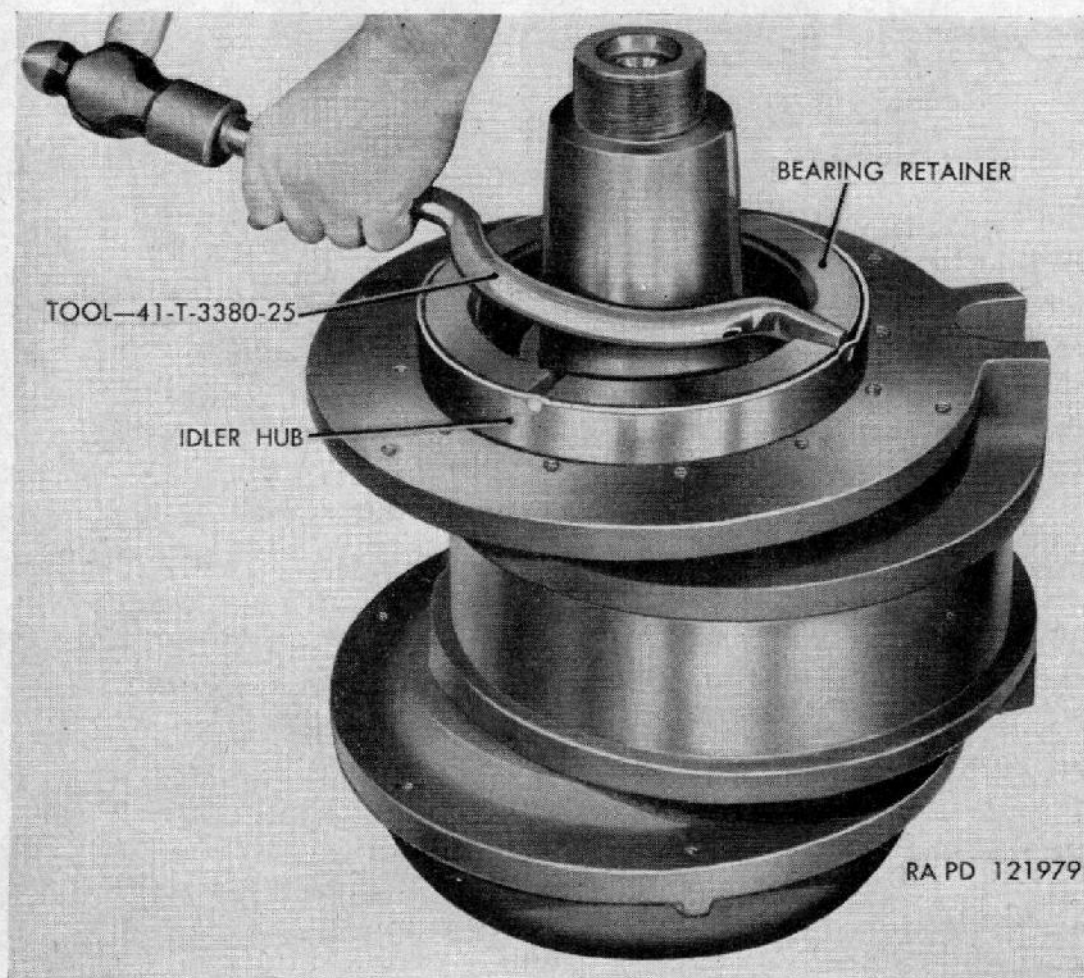
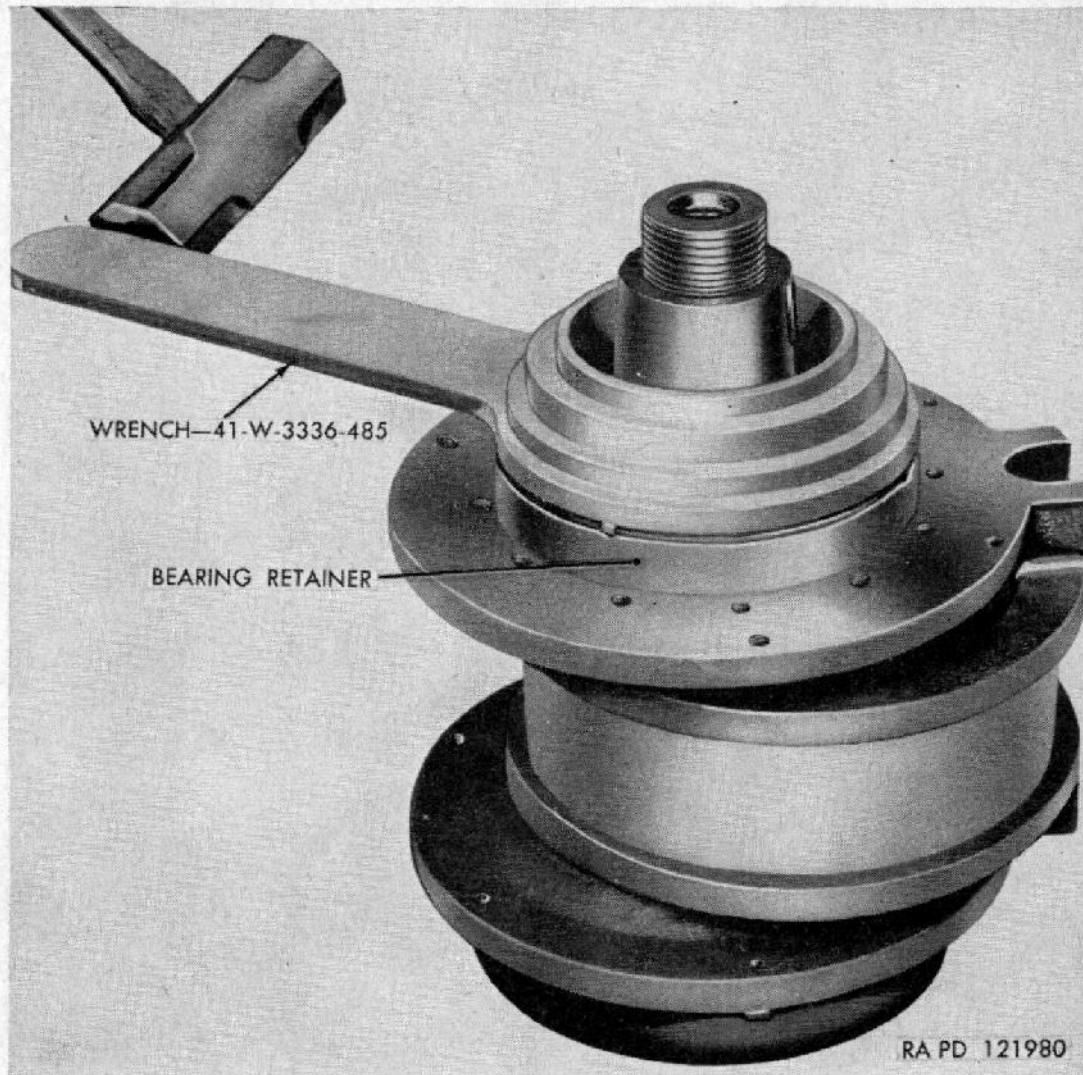

Figure 142. Unlocking bearing retainer.
Figure 143. Removal of bearing retainer.
- (3) *Remove bearing retainers*. Using unlocking tool 41-T-3380-25, as shown in figure 142, unlock bearing retainers. Using retainer wrench 41-W-3336-485, as shown in figure 143, remove retainers from idler hub. Use hammer on wrench to loosen nut. Remove shims under each retainer and tie or wire them to the retainer from which they were removed.
The shaft should turn snugly when rolled by hand. Lock-bearing retainer after bearings are adjusted. The bearing retainers (fig. 142) are locked by bending flange of hub into retainer slots.